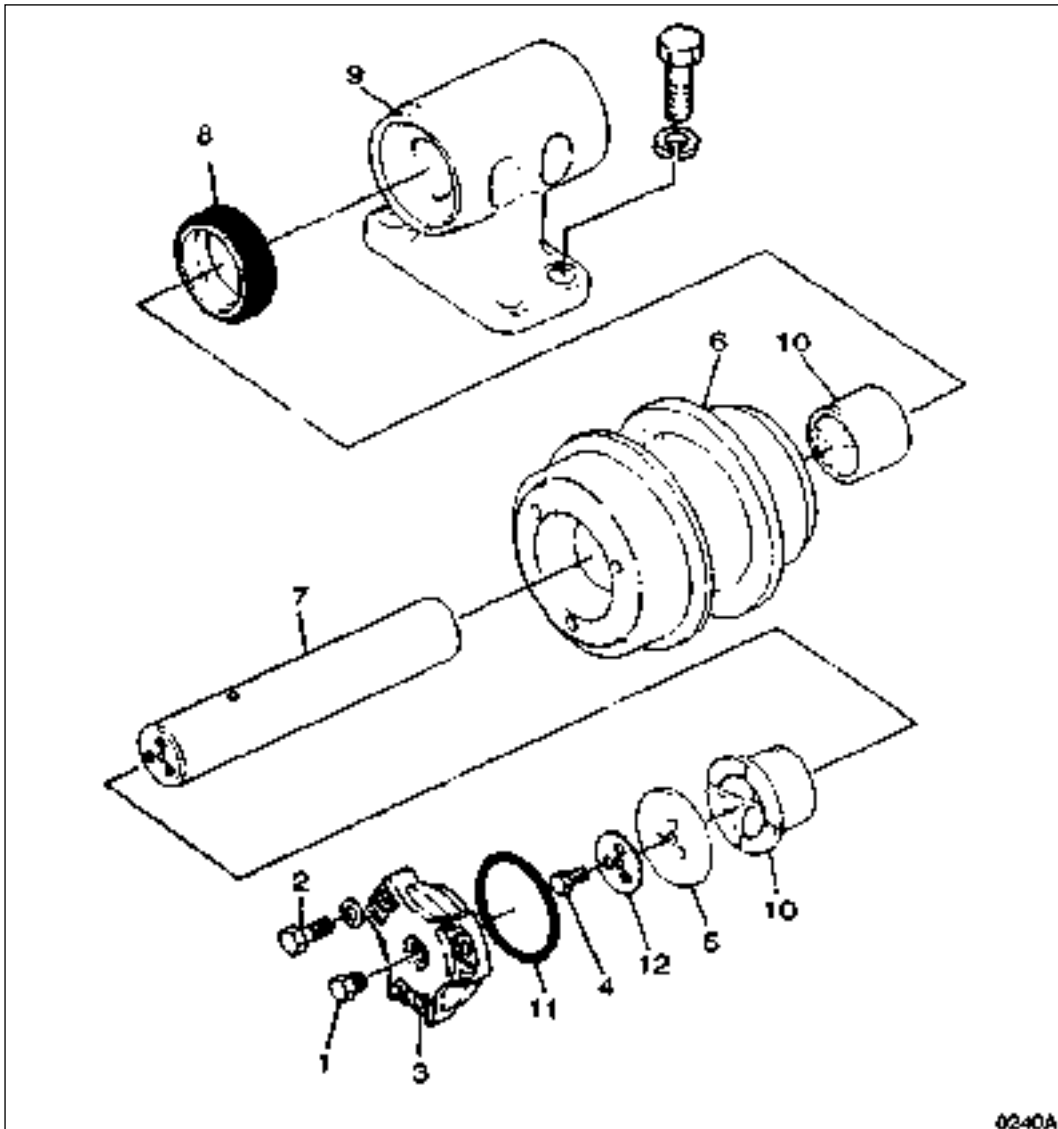
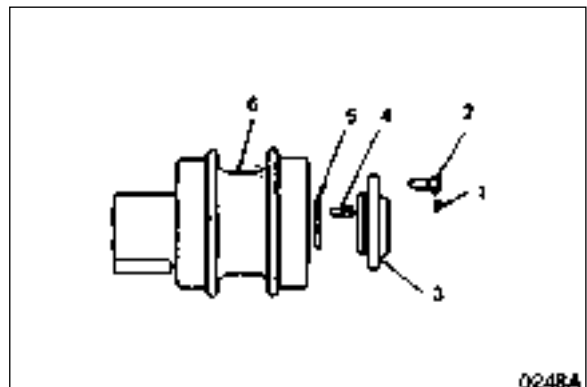

Figure 40
Figure 49
3. Install the axle, washer (5, Figure 49) and bolt (4).
4. Attach group seal (8, Figure 40) to the roller (6, Figure 49) and cover (3).
5. Insert the O-ring (11, Figure 49) to the cover. Attach cover (3) and bolt (2) to the roller.